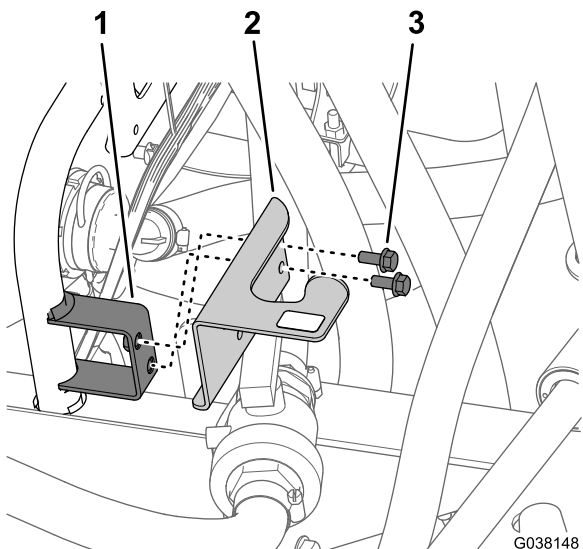

Figure 22
2. Remove the 2 flange-head bolts (5/16 x 3/4 inch) that secure the throttle-valve bracket to the throttle-valve mount, and remove the bracket (Figure 22).